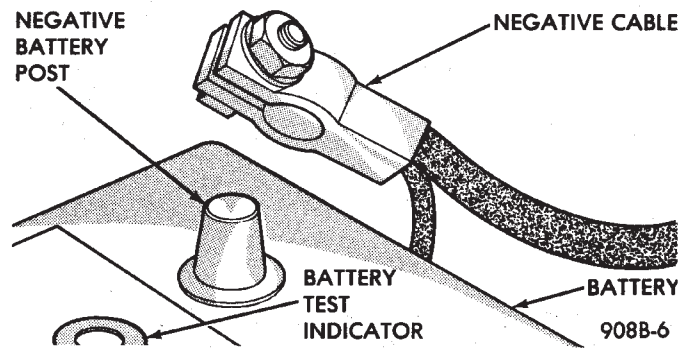
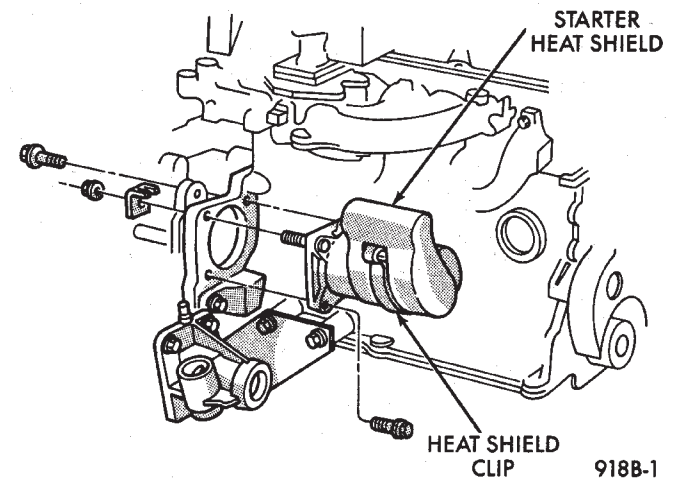

Fig. 1 Remove or Install Battery Cable
Fig. 2 Starter Heat Shield—4 Cylinder Engines
- (1) Disconnect battery negative cable (Fig. 1).
- (2) Raise vehicle.
- (3) Remove heat shield clip from the starter and heat shield (Fig. 2). For easier servicing, do not remove the wiring from starter at this time.